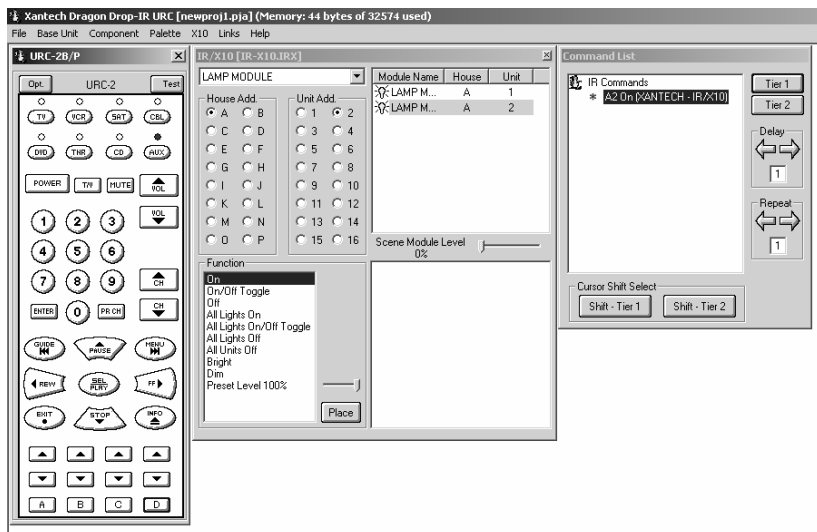

Figure 4 – Placing X10 Commands on Controller
6. The X10 function command is now programmed under button D of the AUX Source Bank on the virtual controller. Repeat this procedure for each module you have in the Module Name list. Refer to **Figure 4 - Placing X10 Commands on Controller**.